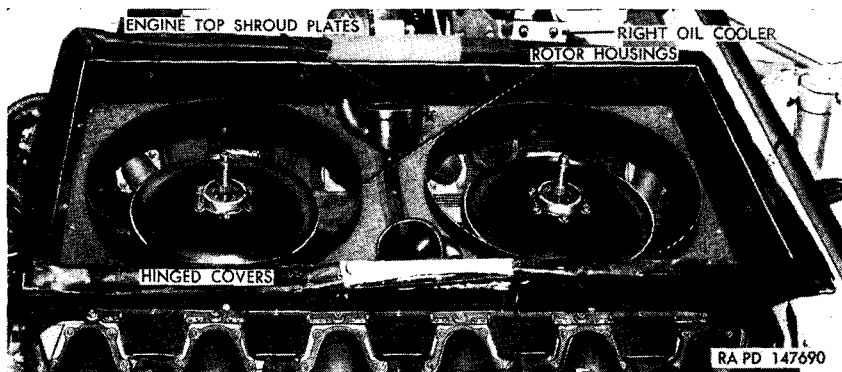

Figure 114. Engine top shroud with fans removed.
- (5) Remove the two fans (par. 154a(2), (3), and (4)).
- (6) Remove locking wire from the six slotted nuts securing each rotor housing (fig. 114) to upper portion of fan drive housing. Remove the six nuts and washers.
- (7) Remove two top shroud plates.
- (8) Remove the two exhaust manifold hole cover plates.
- (9) Remove the engine top shroud section by lifting it from the power plant.
- (2) Remove five cap screws securing stationary fan vane (fig. 96) to engine top shroud plates (fig. 114).
- (3) Remove three machine screws and washers from top of shaft cover and lift off cover.
- (4) Remove cotter pin and slotted nut from drive shaft. Tap drive shaft and remove fans from the splined shaft by lifting straight up.
- (5) Remove outer row of 12 bolts connecting fan rotor to adapter and remove rotor.